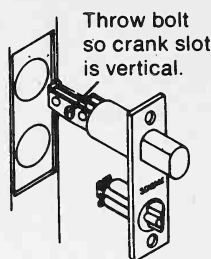

Fig. 18-40.
9. With the dead bolt thrown and the crank slot in the vertical position, insert the latch unit and secure with the screws provided (Fig. 18-40). The deadlatch can be rotated to match the door hand (Fig. 18-41). The